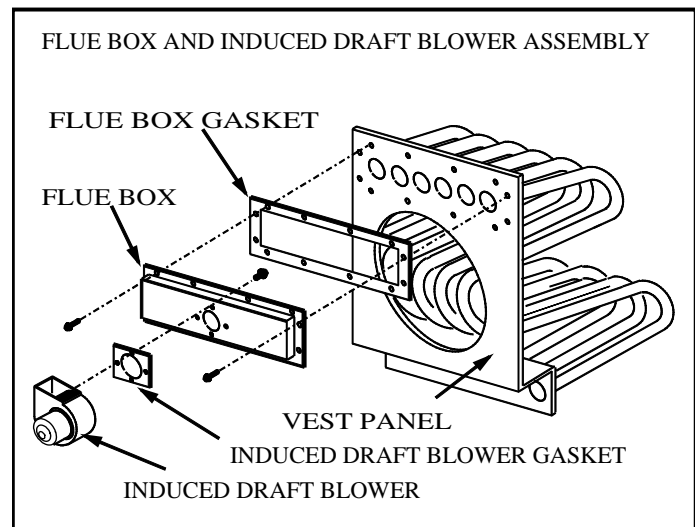

FIGURE 1
- 3- With no electrical or gas connections in place, remove the securing screws on the flue box/induced draft assembly. See Figure 1.